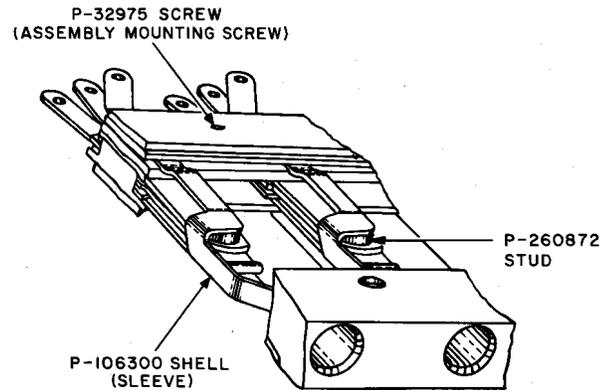

Fig. 1—92- and 292-Type Jacks
2.01 Fig. 1, 2, and 3 show the various piece parts in their proper relation to other parts. The piece-part numbers are given with the names of the parts, as listed by the Western Electric Merchandise Department. When these names differ from those in general use in the field, the latter names, in some cases, are shown in parentheses.